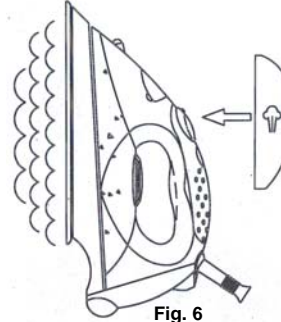

Fig. 6
- Hold the iron in a vertical position and press the steam button. (Fig. 6)